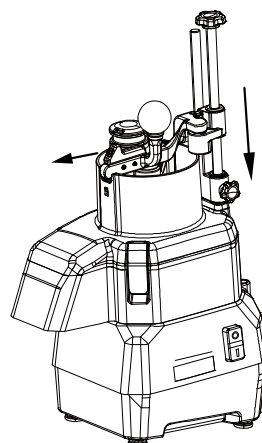

Fig.12
**4.4.3.11** Model GEA4, when you only use small cylinder feeder, press down the arm, lock the small hand wheel on the side of the slider block and pull the lock forward. As shown in Figure 12.